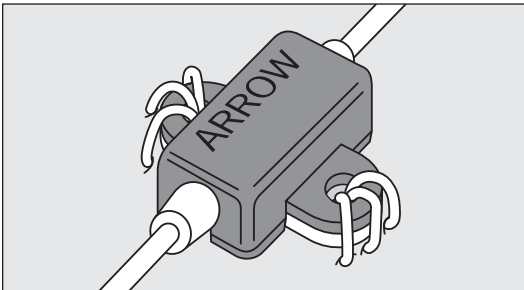

Figure 9
- Secure catheter to patient by stapling or suturing catheter clamp and fastener together to skin, using side wings to minimize the risk of catheter migration (refer to Figure 9).